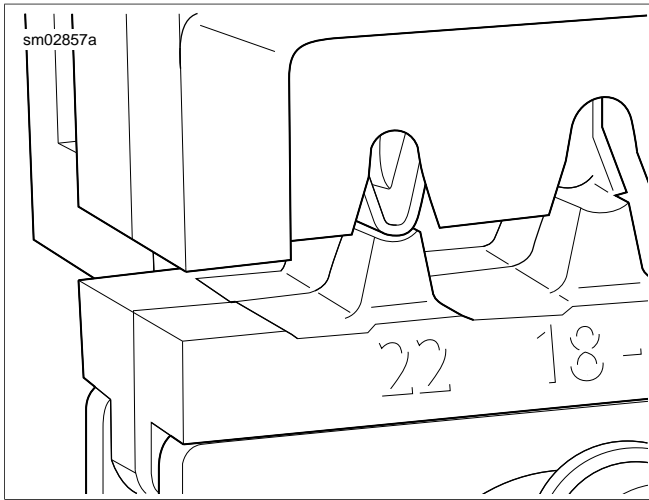

Figure A-55. Crimp Tails in Vertical Alignment between Punch and Die
2. See Figure A-55. Ratchet the handles together until the crimp tails are held in vertical alignment between the punch and the die.